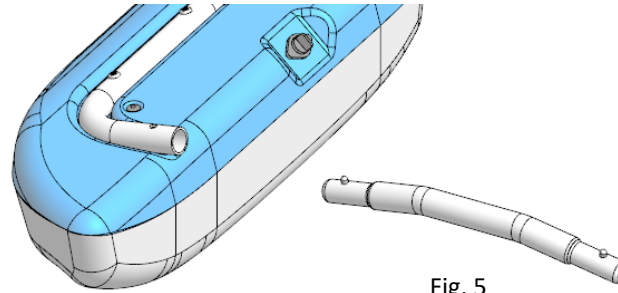

Fig. 5
- 3) Use the **FRONT CROSS FRAME** to connect the right and left **FRONT FLOATS** (fig. 5) by inserting the each of the reduced ends of the **FRONT CROSS FRAME** into the front ends of the frames of the **FRONT FLOATS** until it is secured in place by the quick release pins. (fig. 6)